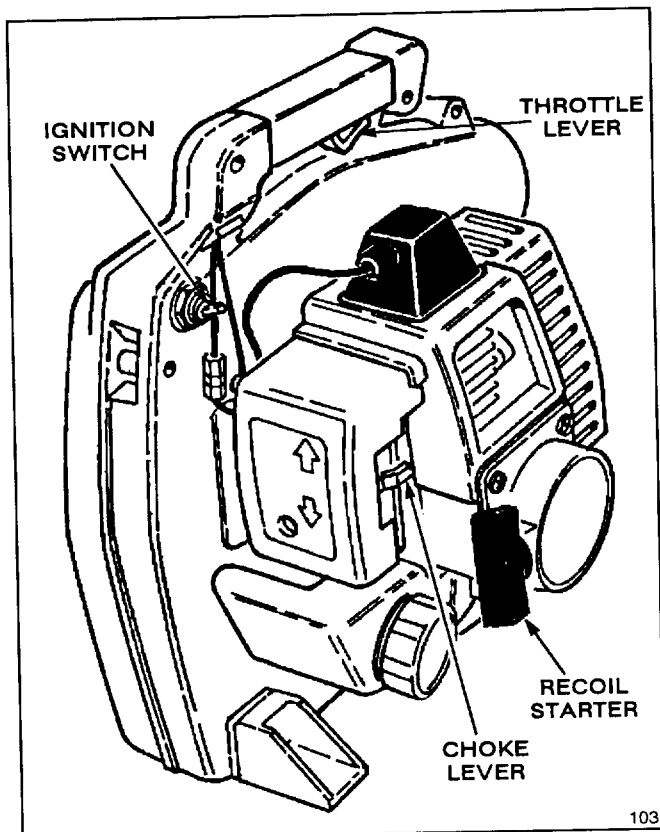

Figure 5
STARTING AND STOPPING INSTRUCTIONS (Fig. 5)
3. Vary engine RPM by operating the throttle lever (Fig. 5). Idle speed, if desired for blowing leaves from a lawn or flower bed, is achieved by leaving the throttle lever in the idle position.